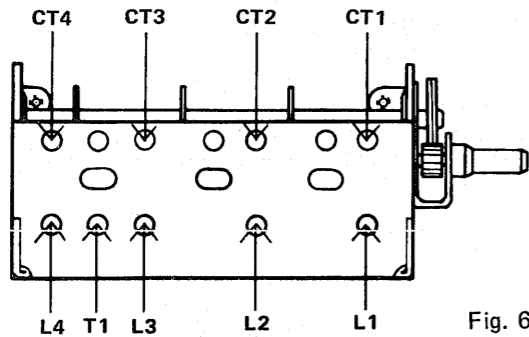

Fig. 6
7. Adjust L4 core first, the adjust cores of L1, L2, L3 for maximum reading on VTVM and so that tuning meter indicates center position (Fig. 6).